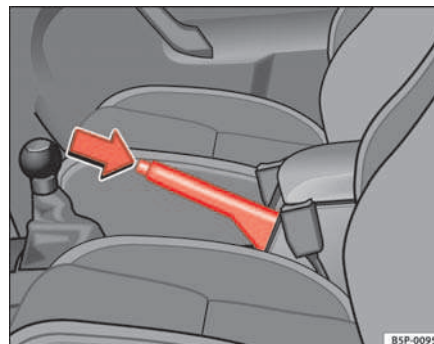

Fig. 138 Handbrake between the front seats
- Pull the handbrake lever up firmly ⇒ **fig. 138**.
- Pull the lever up slightly and press the locking knob in the direction of the arrow ⇒ **fig. 138** and guide the handbrake lever down fully ⇒ .